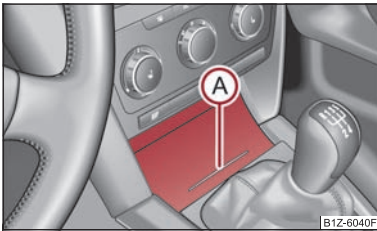

Fig. 73 Front centre console: Storage compartment
- Press on the bottom part of the storage compartment in the area **(A)** ⇒ fig. 73 – the lid opens.